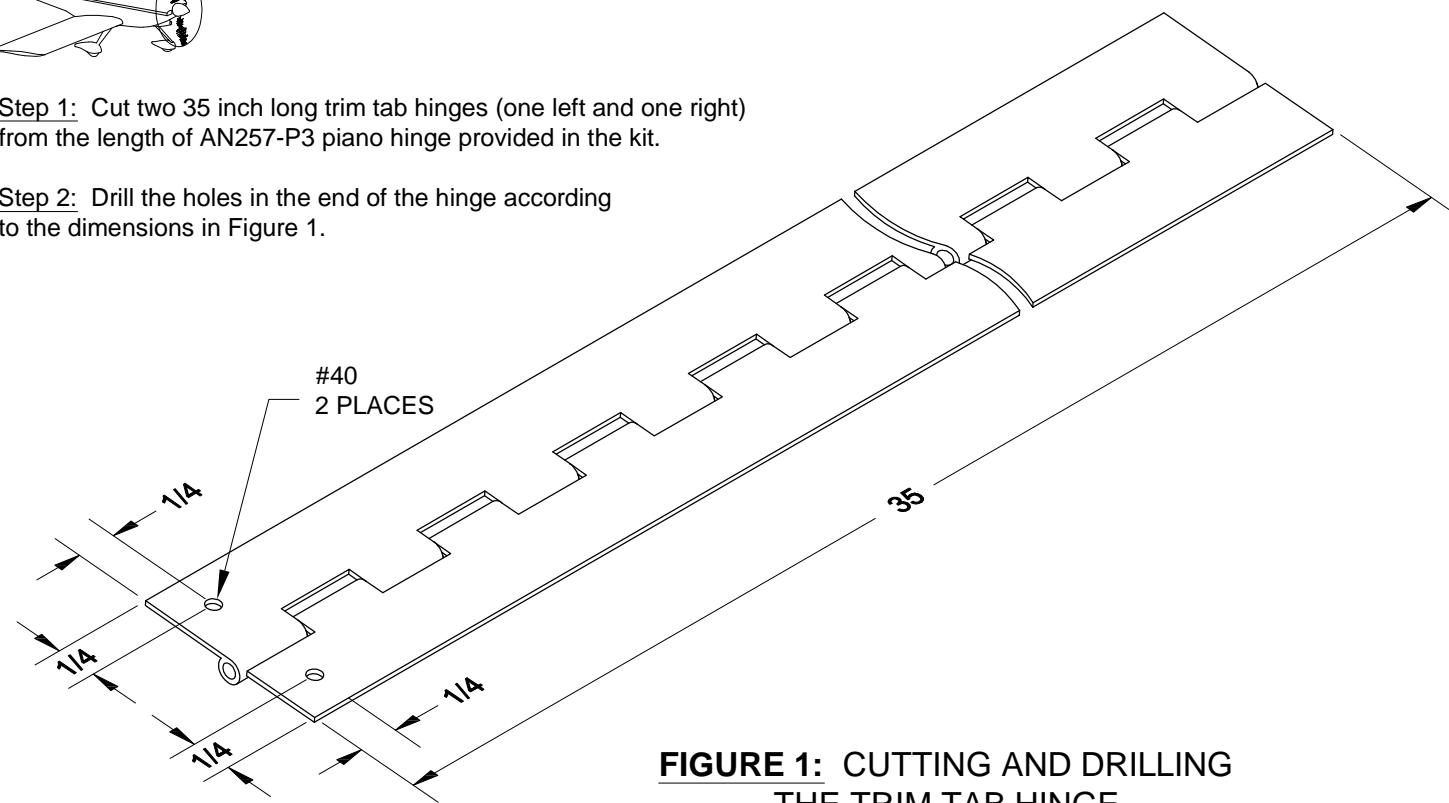

FIGURE 1: CUTTING AND DRILLING THE TRIM TAB HINGE
Step 2: Drill the holes in the end of the hinge according to the dimensions in Figure 1.